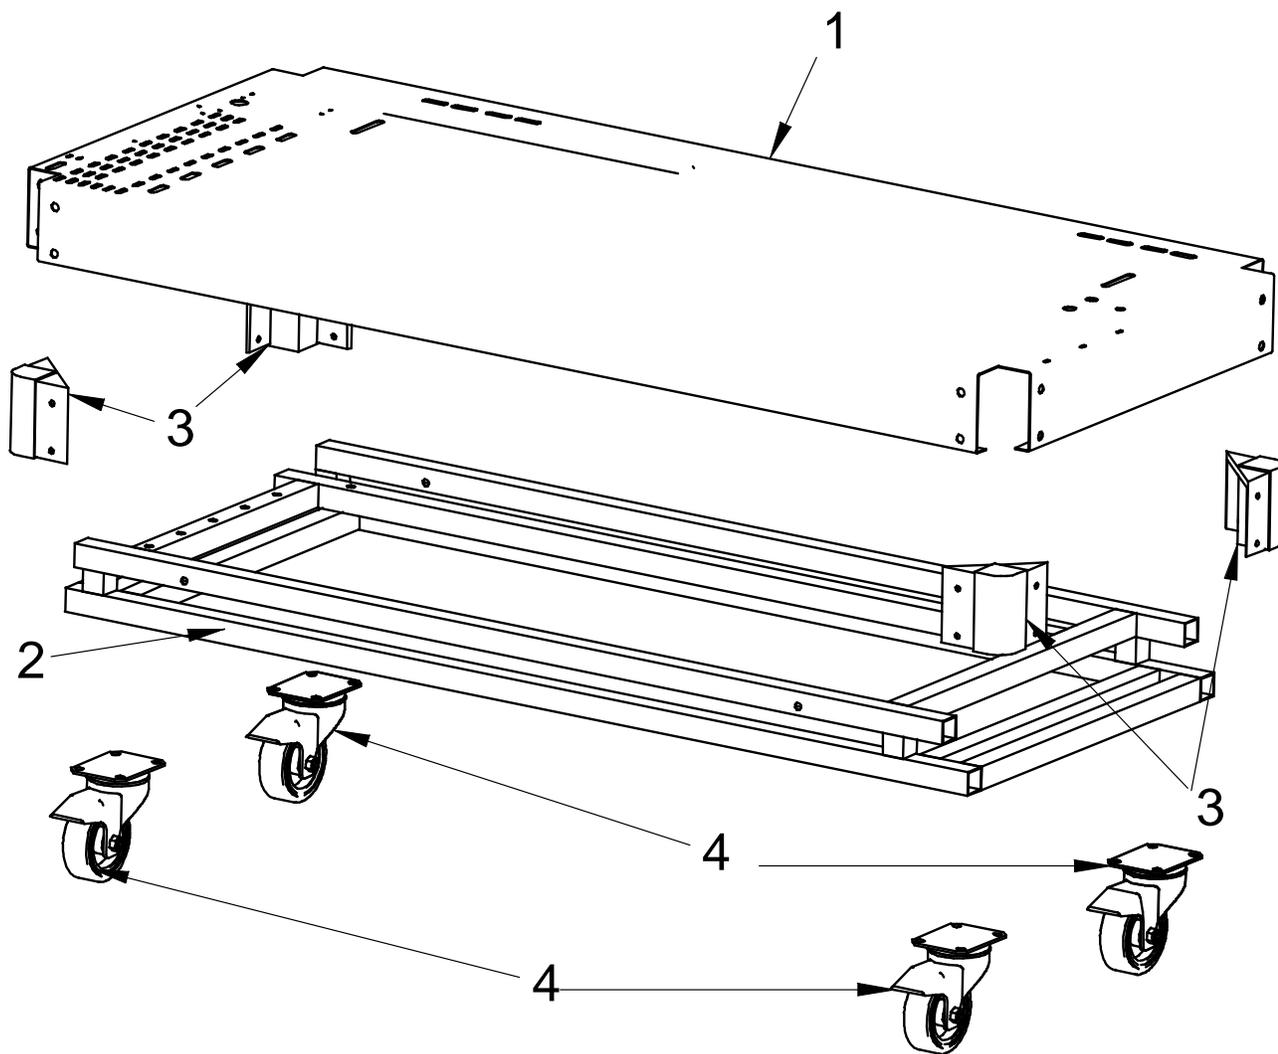

Figure 1 – Base and Cart AC 1
11.1 Figure 1- Base and Cart AC 1